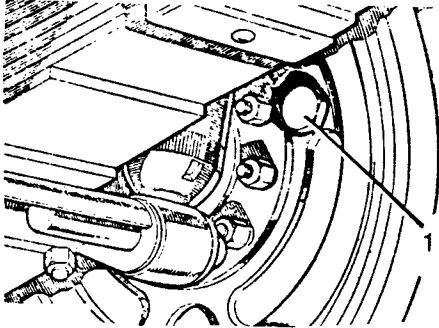

Fig K1.5
- (2) Refer to Fig K1.5. Slacken off the brake adjuster/s (1) at the brake anchor plate.